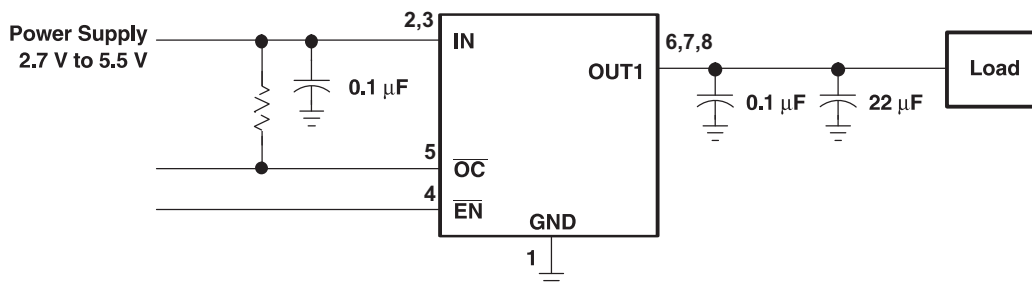

Figure 6. Typical Application
Three possible overload conditions can occur. In the first condition, the output has been shorted before the device is enabled or before VI(IN) has been applied (see Figure 6). The TPS2049 senses the short and immediately switches into a constant-current output.